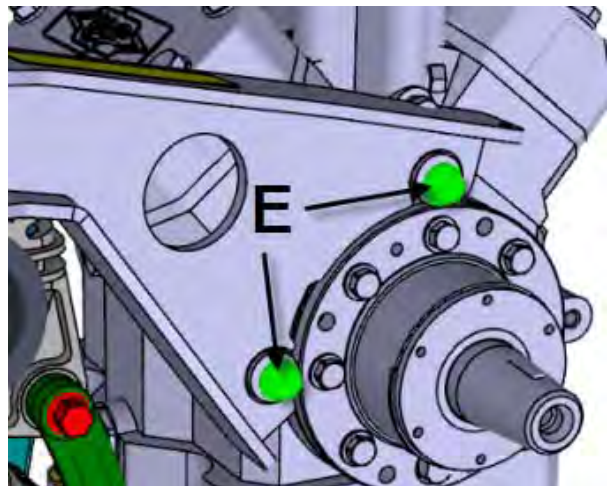

FIGURE 10
22. Tighten bolts (**C**) and bolt (**E**) (refer to FIGURE 9 & FIGURE 10 to identify bolts C & E).